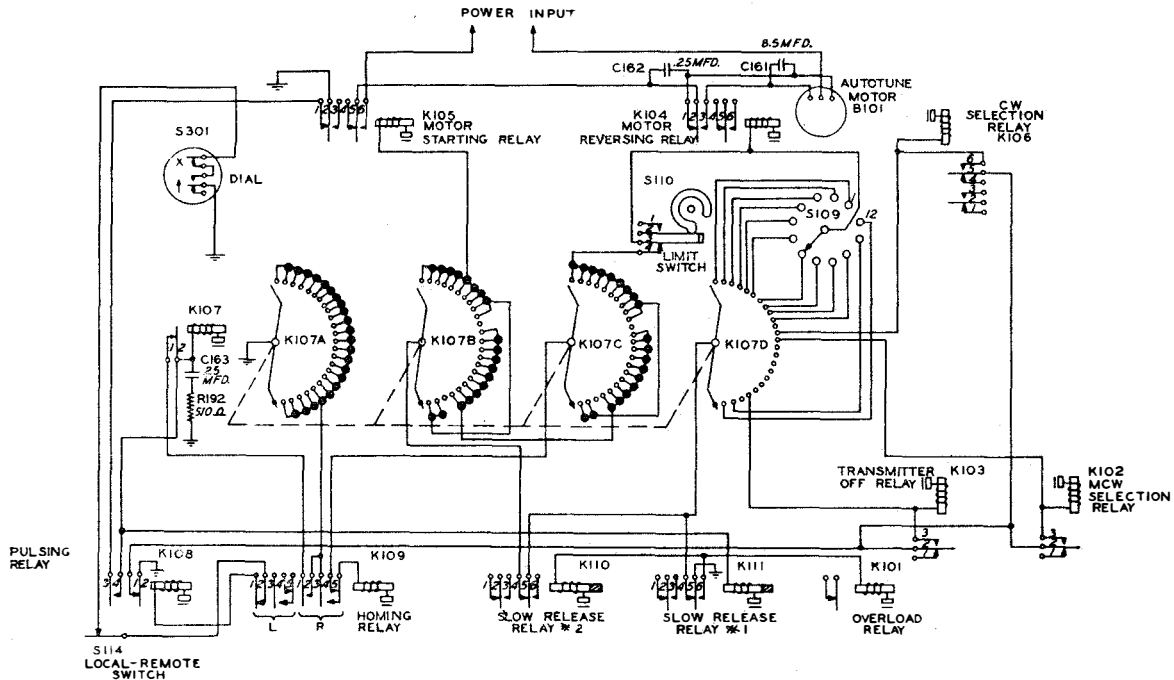

Fig. 5A Collins Autotune System—Electrical Details
2.6.2 **Electrical Details.** The Autotune control circuits, in simplified form, are shown on Figure 5A. The item numbers opposite the component symbols correspond to the item numbers that are used on the transmitter schematic diagram and in the parts list. The following section has been compiled to aid the operator in better understanding the operation and control of the Collins Autotune system. A brief description of each component associated with the system and the function of the component is listed below: